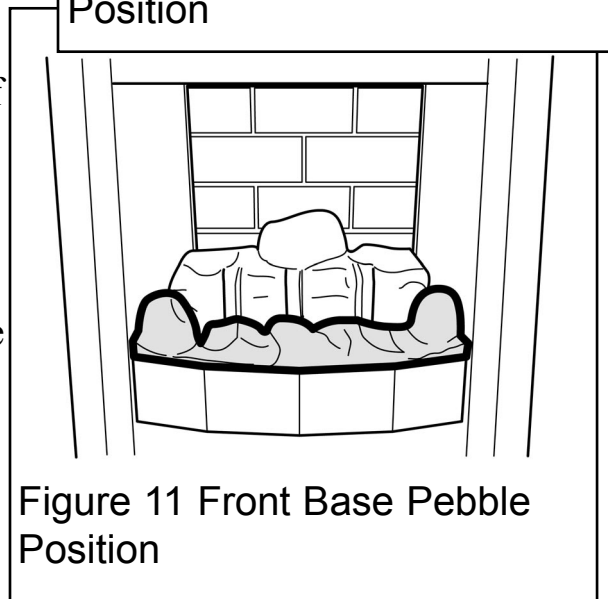

Figure 11 Front Base Pebble Position
2. Place the front base pebble in the firebox with its bottom front locating over the front rim of the firebox. Pull the pebble forward so that it locates immediately behind the front rim of the firebox. See figure 11.